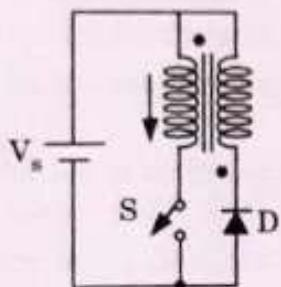

Fig. 3.6.1.
1. The inverter circuit of Fig. 3.6.1 uses bifilar phase windings.
3. When switch S is closed, the primary winding is energized with the current direction as shown in Fig. 3.6.1 and energy is delivered by source to phase winding.